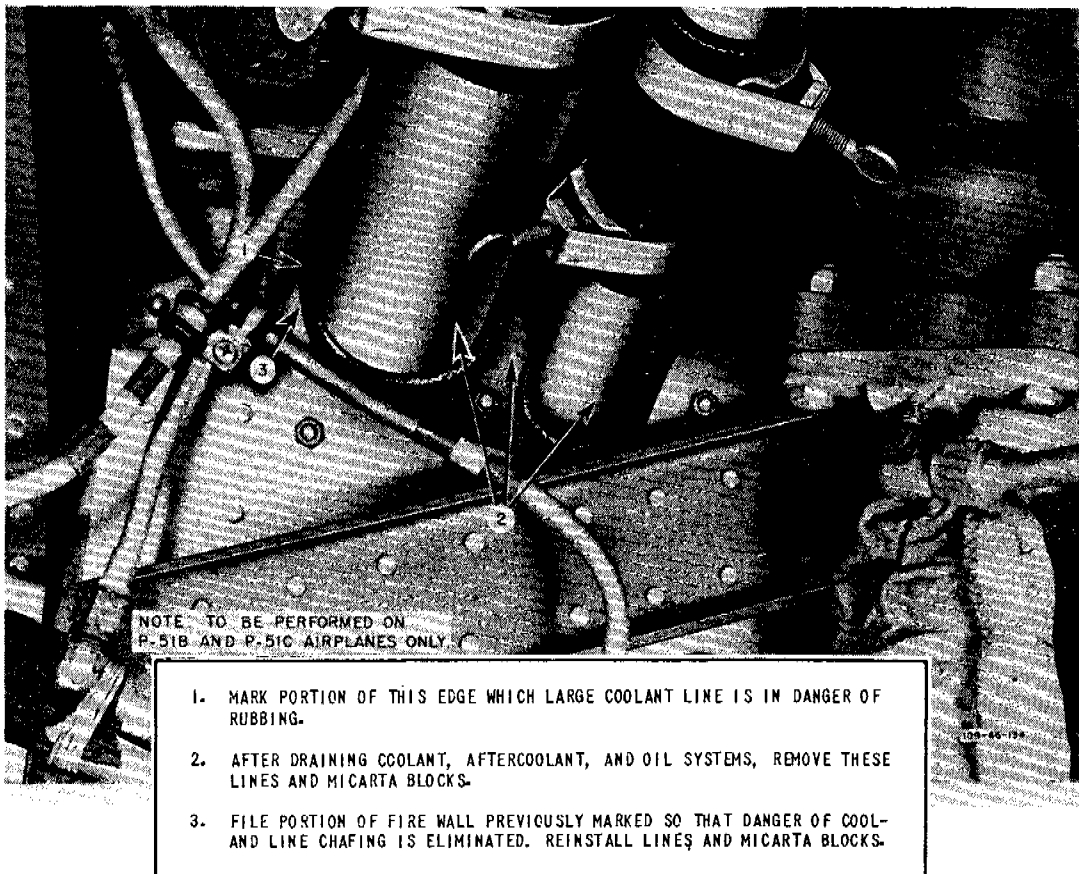

Figure 1 - View Looking Forward at Fire Wall From Left Wheel Well
c. Locate the area on the fire wall which is in danger of chafing the large coolant line, part No. 102-46814, and mark this area with a pencil. (See figure 1.)